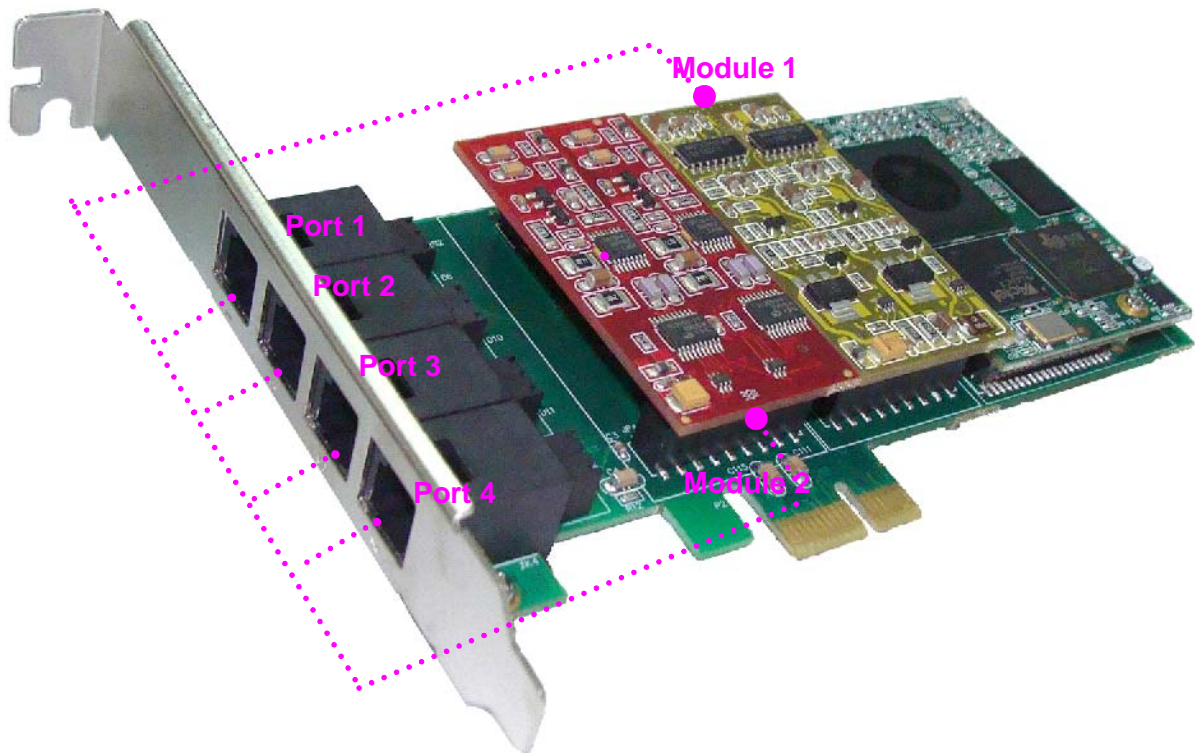

Figure 2-5 Modules and RJ11 Jacks
Figure 2-5 below shows the corresponding relationship between the modules on the motherboard and the RJ11 jacks.
- 1) What each RJ11 jack corresponds to is the module position but not the module type. For example, as shown in Figure 2-5 above, Port 1 and Port 2 are connected to Module 1, no matter Module 1 is FXO, FXS or FXC. Likewise, Port 3 and Port 4 correspond to Module 2, no matter Module 2 is FXO, FXS or FXC.